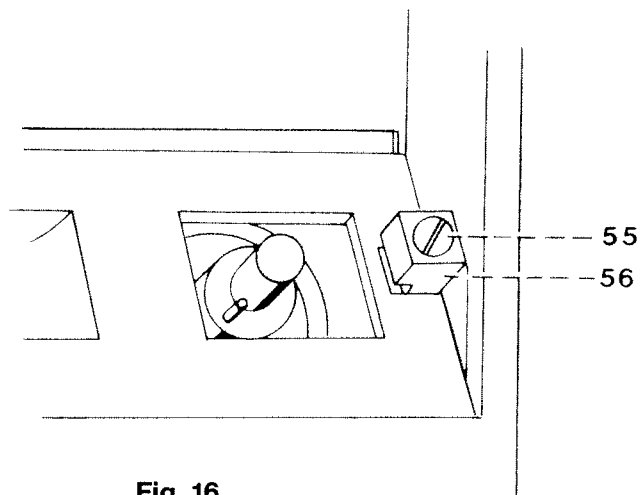

Fig. 16
- Loosen screw 55 (see Fig. 16).